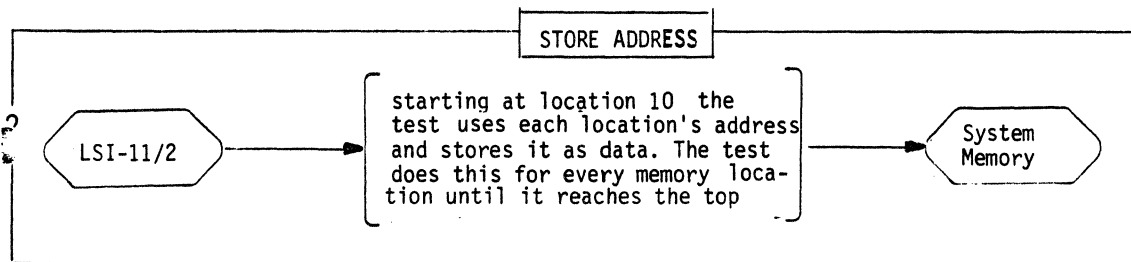

Fig. 3-6. Store address.
2. STORE ADDRESS (Fig. 3-6). The test execution continues at location 10 using its address as data and storing it in the location. The test then sequences upwards in memory through all remaining addresses, each time using the address as data and storing it in the memory location.